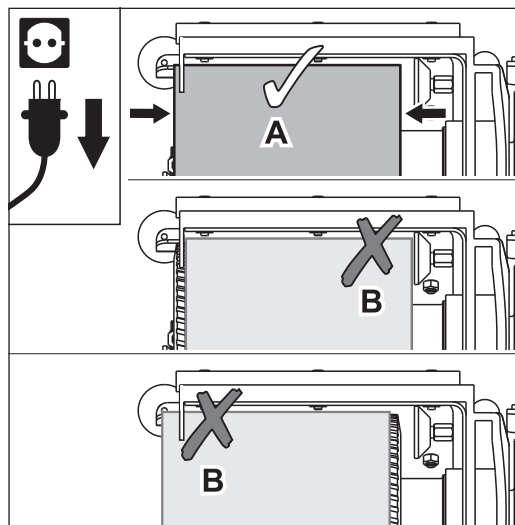

Fig. 10 Position the sanding belt so that it evenly covers the sanding drum (A). Avoid position B without fail (**FIRE DANGER**)! Similar to figure.
- 10 Position the sanding belt so that it evenly covers the sanding drum (Fig. 10, A).
**Position B of the sanding belt in Fig. 10 provoke sparking during sanding (FIRE DANGER)! Avoid this without fail!**